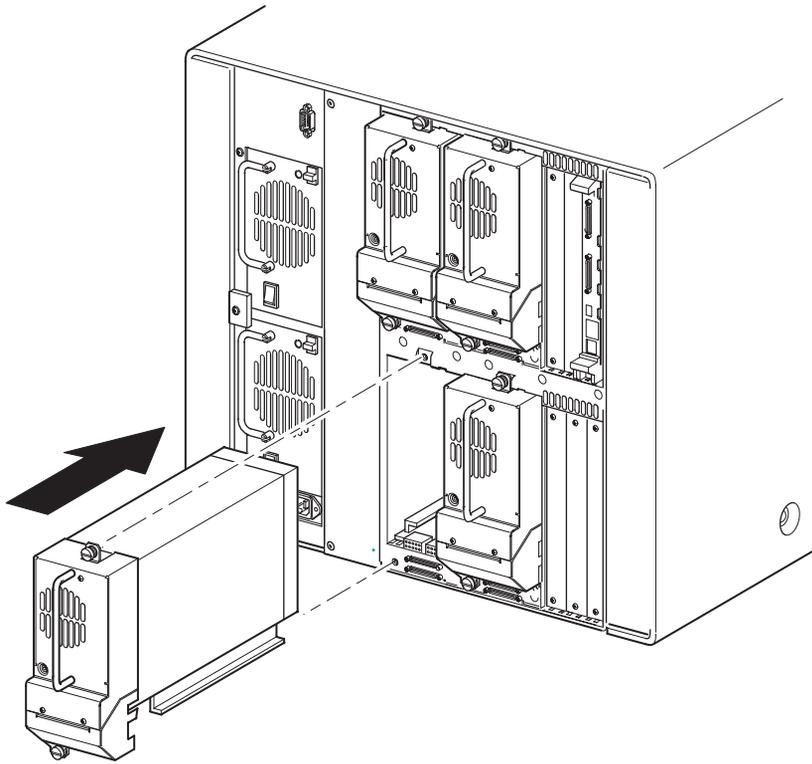

Figure D-2: Installing a tape drive (MSL5052 shown)
3. Slowly insert the tape drive into the mounting bay. Make sure you push the tape drive all the way in so it fully seats in the mating connectors at the rear of the library (see Figure D-2).